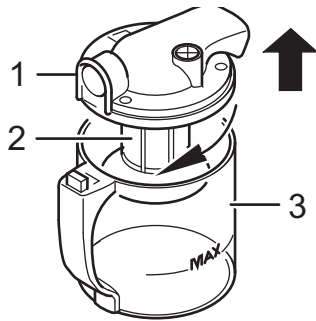

Fig. 21
3. Remove the cover (Fig. 21/1) from the dust container (Fig. 21/2).
4. Remove the filter grid (Fig. 21/3) that protects the central laminar filter against coarse dirt. To do this, turn it to the right and pull it down and out.